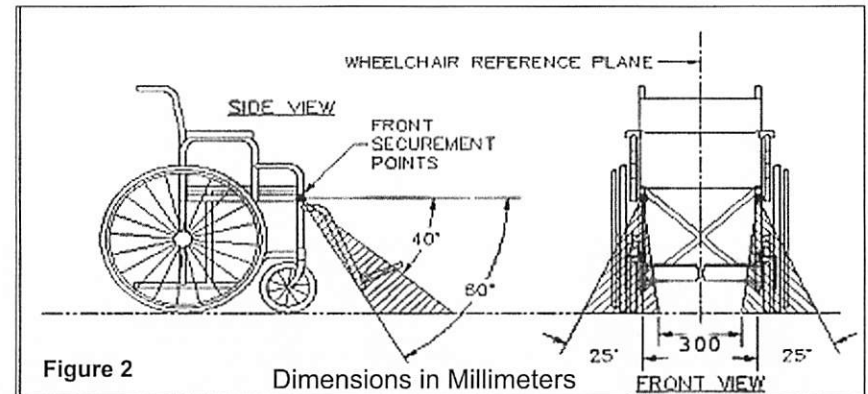

Figure 2
17. See the diagram of the front view of the wheelchair tie-down angles in your workbook, Figure 2. The dimension of 300 is in millimeters and equals about 12 inches, which is for reference only.
20. The two front tie-downs when attached to their anchorages should have a belt angle of 40 to 60 degrees, as shown in the side view diagram, Figure 2.
- 29. Remember the belts must take a direct path from the wheelchair securement points to the floor anchorage, without going around or through wheels or other parts that would prevent the straight line, see figures 2 & 3.